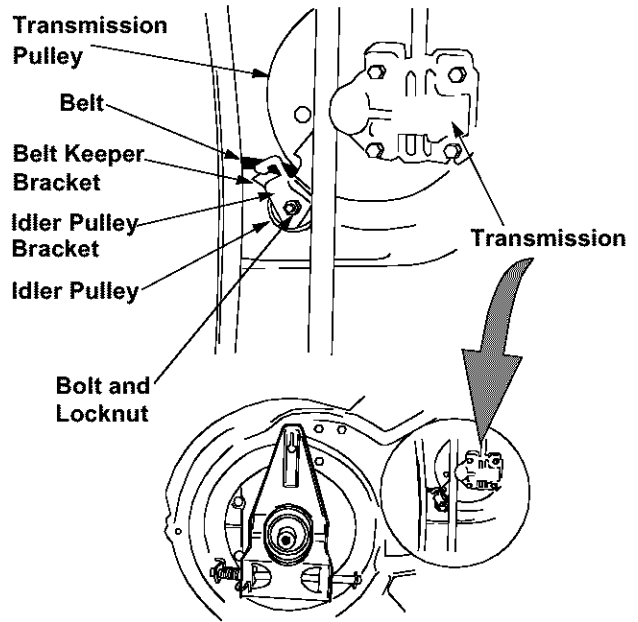

Figure 16
- Slide the belt out from between the belt keeper bracket and the idler pulley. See Figure 16.